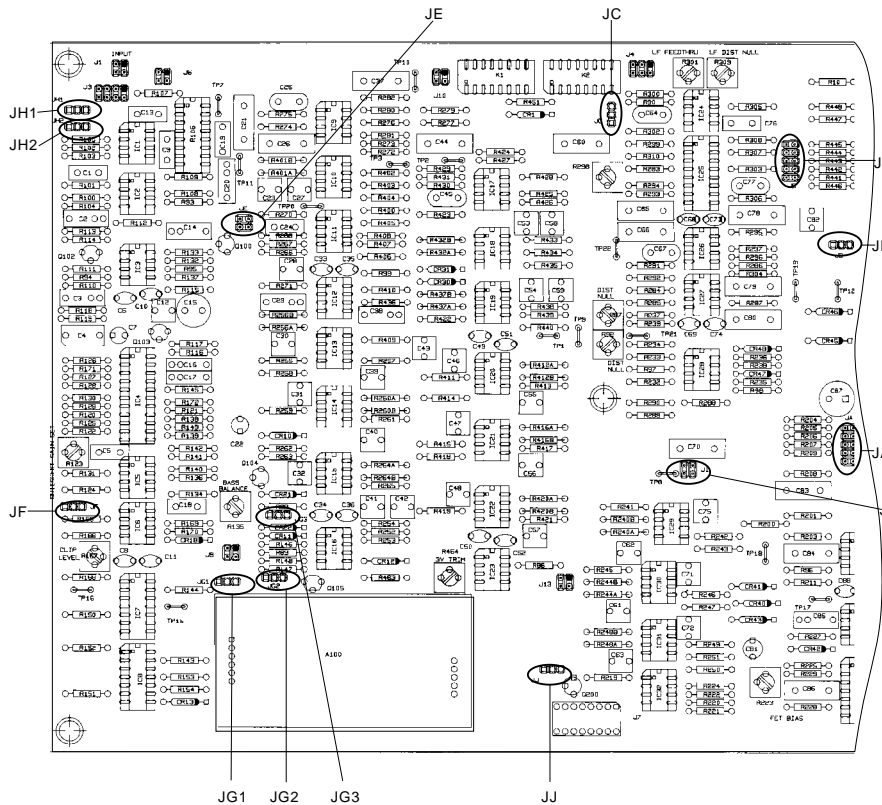

Figure 2-7: 4000 Jumper Locations
- B) Refer to Figure 2-7 for jumper locations.